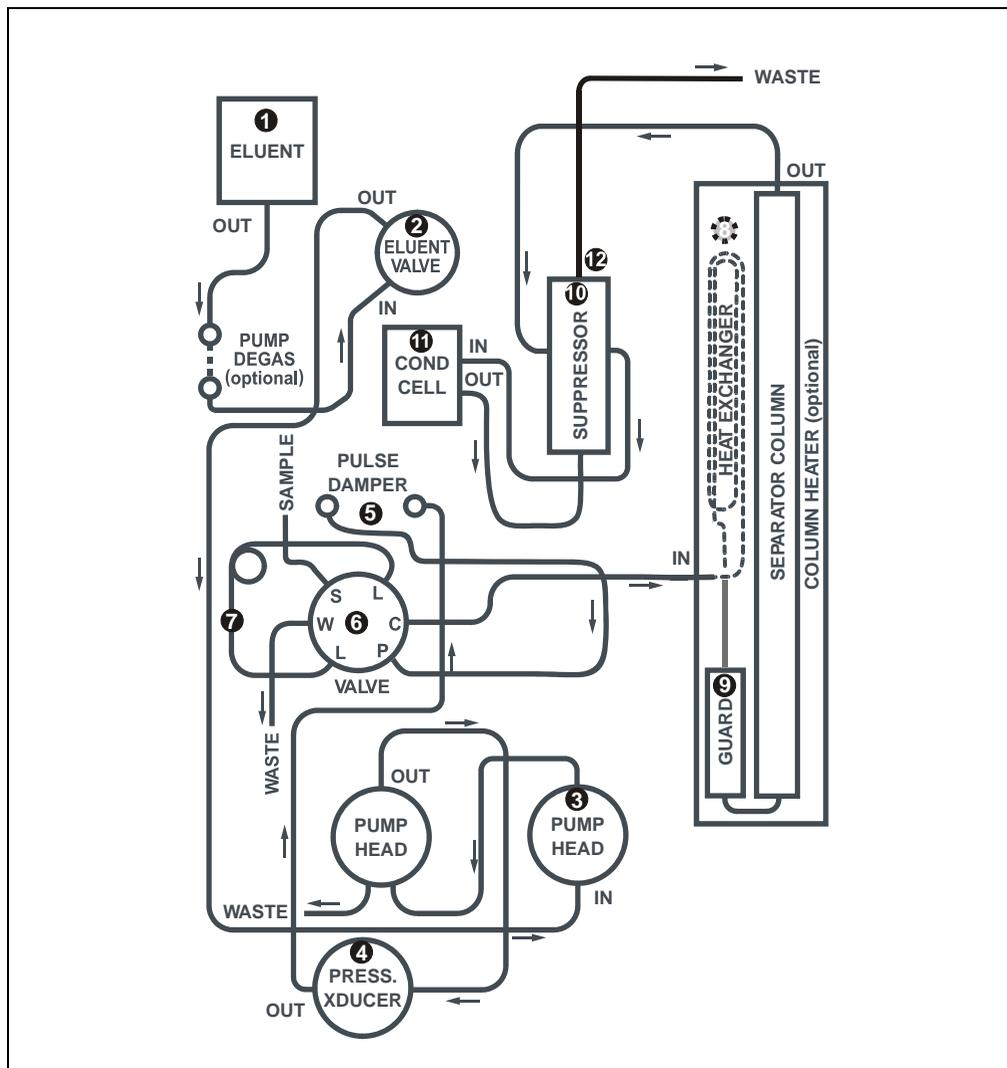
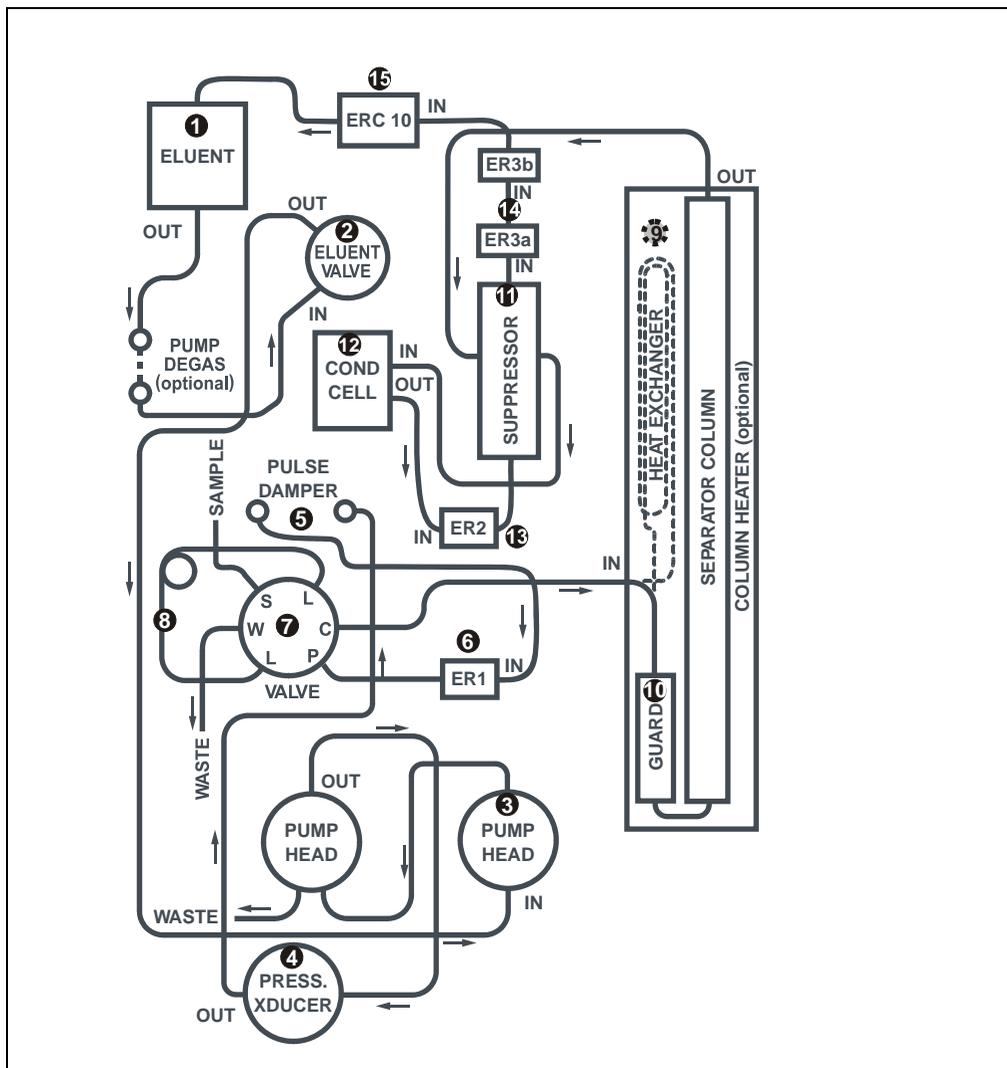

Figure 5-2. Dionex ICS-1100 Flow Schematic: Standard Configuration
Figure 5-3. Dionex ICS-1100 Flow Schematic: RFIC-ER Mode
2. Follow the flow schematics in Figure 5-2 or Figure 5-3 and work backward through the system, beginning at the suppressor **Regen Out** port. One at a time, loosen each fitting and observe the pressure. The connection at which the pressure drops abnormally indicates the point of restriction.